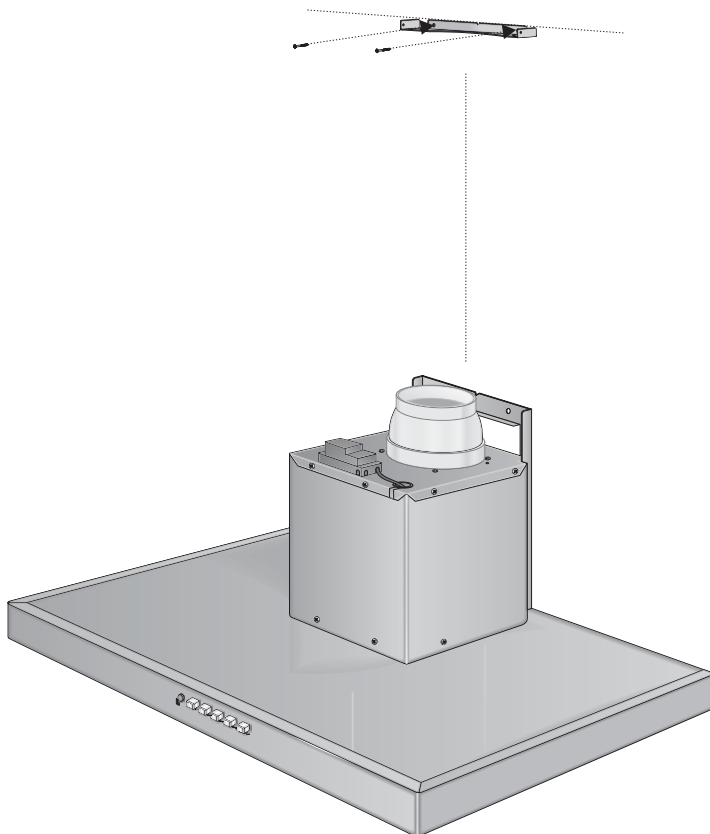

Fig. 7
- Fissare la staffa ancoraggio camino superiore a parete a contatto del soffitto, utilizzando le due viti in dotazione M5 x 40.(Fig.7)
- Fix the upper stack wall clamp to the wall touching the ceiling by means of the four M5 x 40 included in the supply.(Fig.7)
- Fixer la bride ancrage cheminée supérieure sur le mur au contact avec le plafond, en utilisant les deux vis en dotation M5x40.(Fig.7)